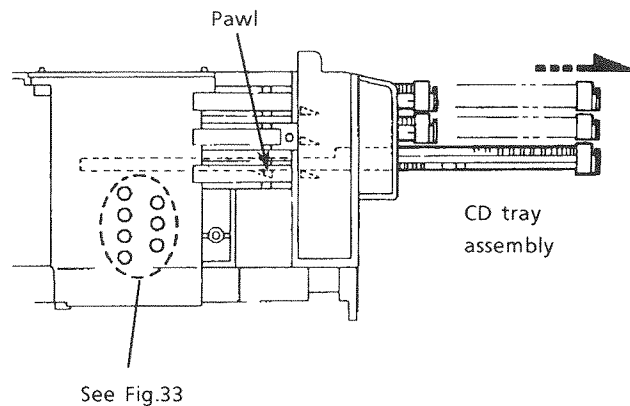

Fig. 32
11. Check that the driver unit elevator is seen from a hole (marked ⑤) on left side of the CD changer mech..(See Fig. 32 and 33.)
13. And, pull all 3 CD tray assemblies forward until they stop. (See Fig. 32.)